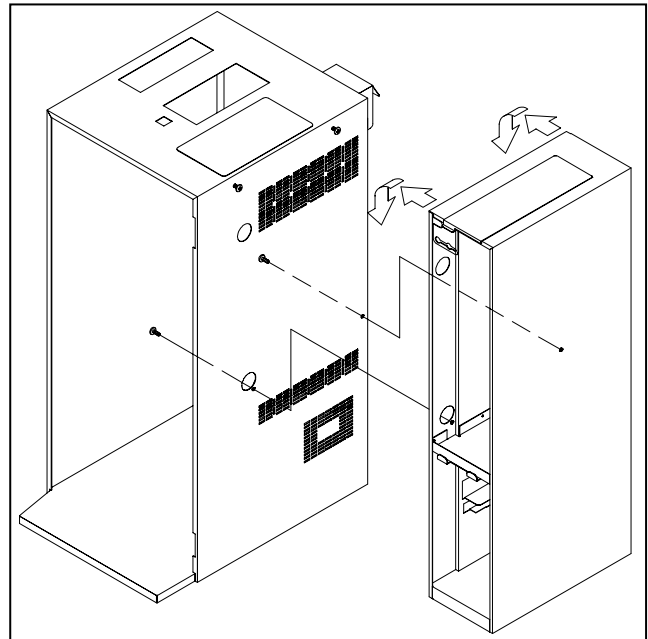

Figure 3 - Mount the unit to the side of machine
2. Mount the A.P.P. unit onto these screws the same way you would mount a condiment bin or cup holder to the machine (*figure 3*).
3. From the inside of the machine, pass two 8-32 screws (provided) through the side wall (where the two smaller holes were previously drilled), and into the clinch nuts on the A.P.P. This will help secure the assembly in place (*figure 3*).